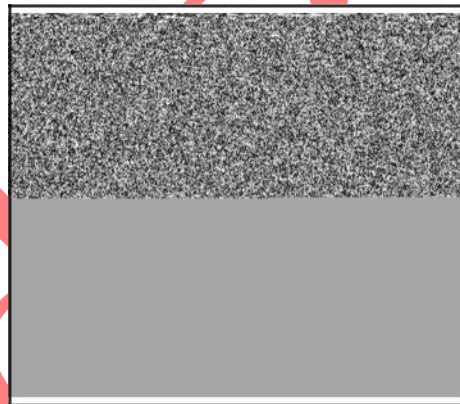

Figure 20
1. Insert RED test lead (**A**, Figure 20) into the V Ω receptacle in the meter.